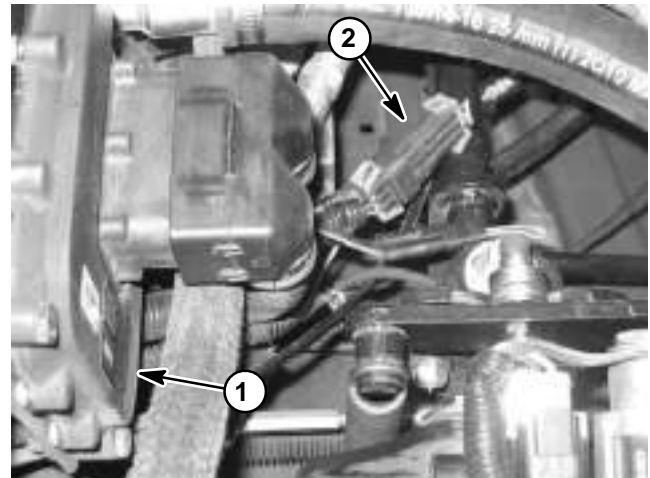

Figure 11
2. Tilt and support operator seat to access TEC controller. Locate wire harness and connectors near TEC controller. Carefully unplug loopback connector from harness connector (Fig. 11).